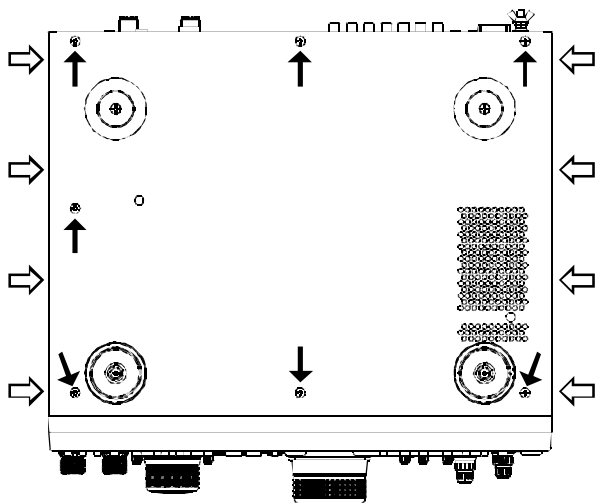

Figure 1
- ❑ Referring to Figure 1, remove the four screws (⇔) on each side of the transceiver, and the seven screws (→) from the bottom of the transceiver, then lift off the bottom cover.
- ❑ Referring to Figure 1, remove the four screws (⇨) on each side of the transceiver, and the seven screws (→) from the bottom of the transceiver, then lift off the bottom cover.